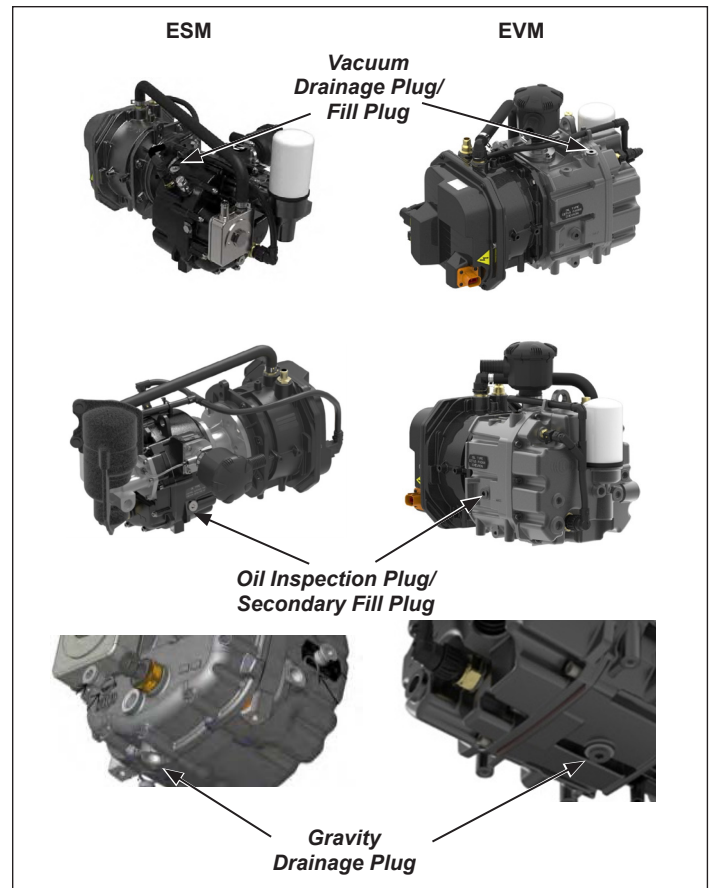

Figure 13 – Drainage and Filling Plugs
2. See Figure 13. Unless already completed, perform the following steps: